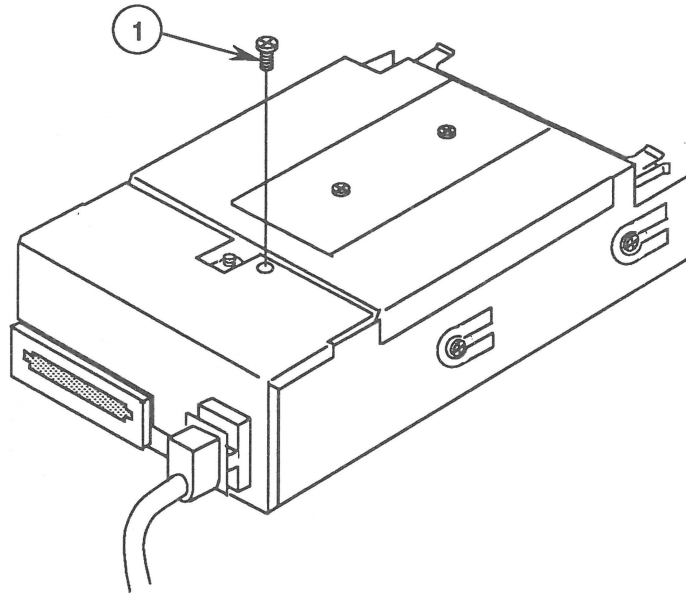

FIGURE 12
3. Replace the external drive cable shield on the drive assembly, and replace the mounting screw (Figure 12, #1).